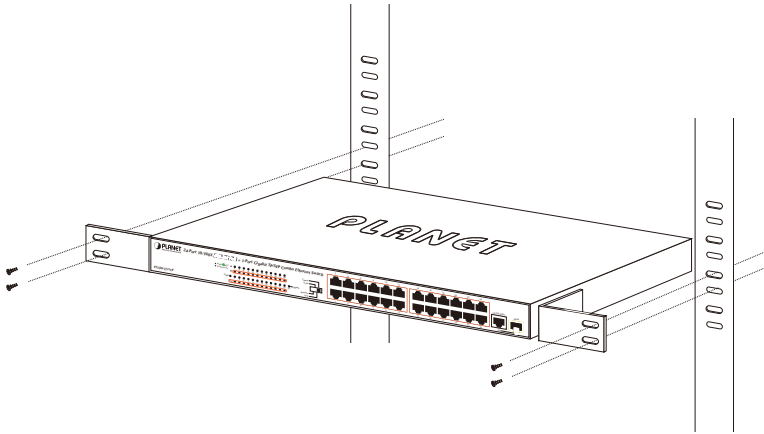

Figure 3-2: Mounting the FGSW-2511P in a Rack
Step 5: After the brackets are attached to the FGSW-2511P, use suitable screws to securely attach the brackets to the rack, as shown in Figure 3-2.